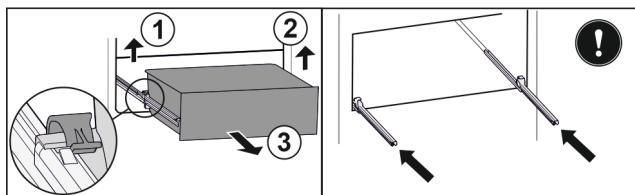

Fig. 149
- Lift left clamp and simultaneously pull drawer forwards on the left. Fig. 149 (1)
- Lift right clamp and simultaneously pull drawer forwards on the right. Fig. 149 (2)
- Remove drawer to the front. Fig. 149 (3)